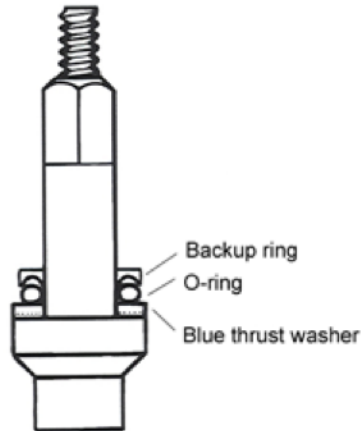

Figure 4
7. Place the blue thrust washer (9) on the stem (10) followed by the O-ring (8) and the new back-up ring (7). Be sure the concave side of the back-up ring is against the O-ring, as shown in Figure 4.